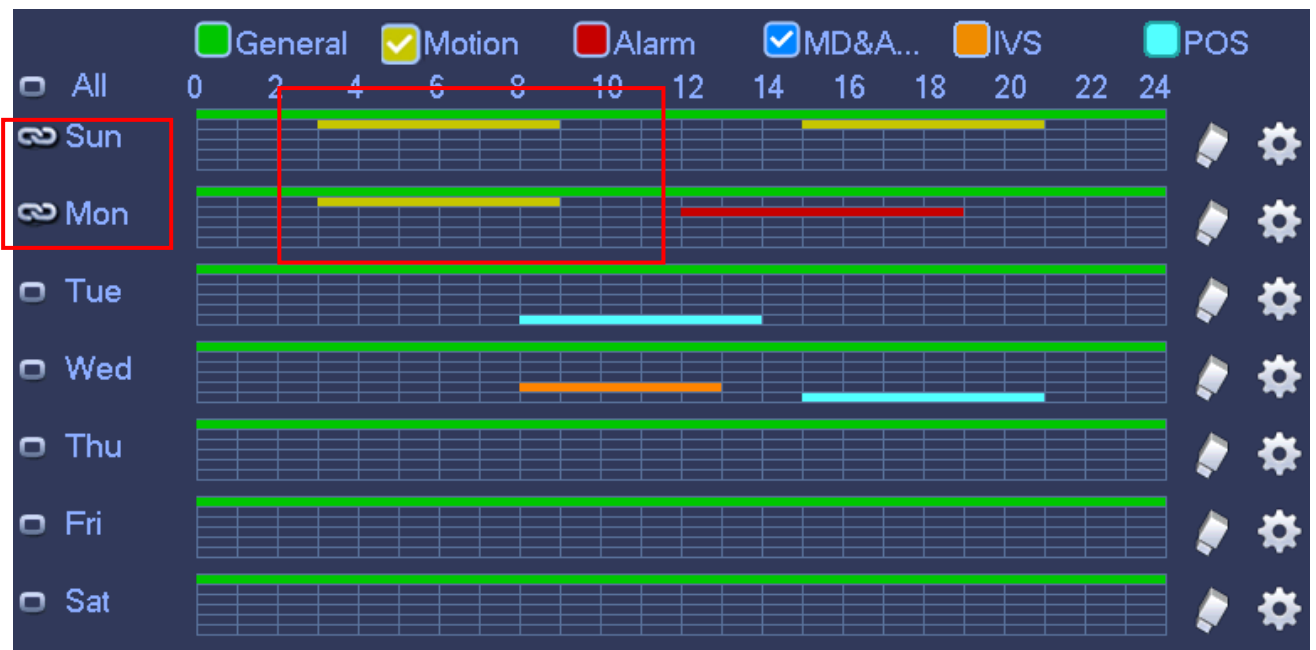

Figure 4-32
Step 3 Please draw manually to set record period. There are six periods in one day. See Figure 4-32.